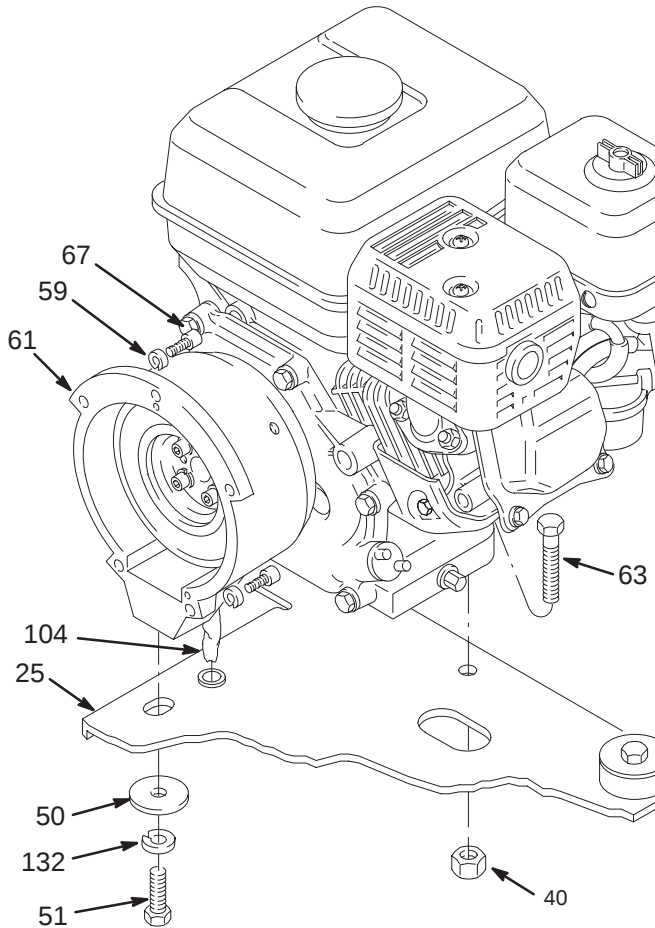

Fig. 35 0045
1. Working under the mounting plate (25) of the cart, remove the screw (51), lockwasher (132) and washer (50) which hold the clutch housing (61) to the cart. See Fig. 35.
2. Still working under the mounting plate, remove the two locknuts (40), and then pull the screws (63) out of the base of the engine. Disconnect the red wire from the engine lead. Disconnect the black and white wires (58) from the field. Pull the wires carefully through the grommets before removing the engine. See Fig. 35 and 36.